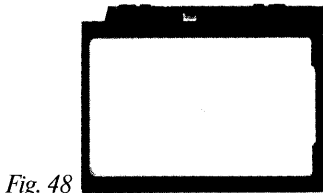

Fig. 48
- *Focusing screen with central horizontal split image and plain matt surround, brightened by a fresnel lens (fig. 48). This screen is suitable for use when extremely critical focus is required.*